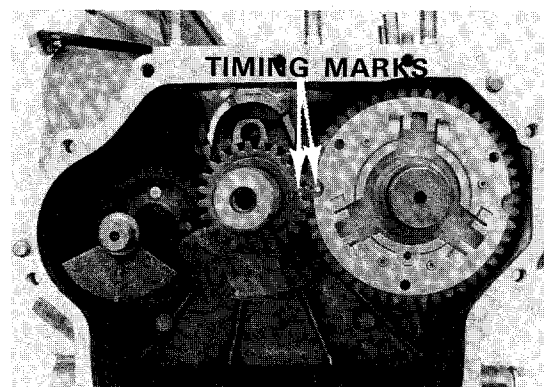

Figure 6-41
11. Install cam shaft (94) into crankcase bearing.
12. Align timing mark on cam shaft gear with timing mark on crankshaft gear (Figure 6-41).
13. Install dynamic balance shaft (89) into crankcase bearing.